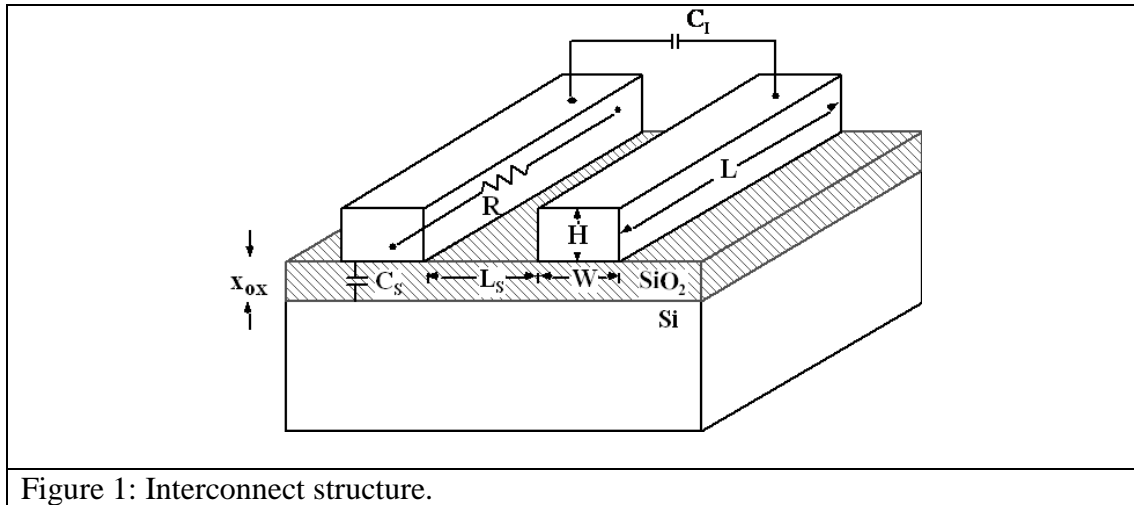

Figure 1: Interconnect structure.
- Refer to Figure 1. Derive expressions for line resistance (R), line-to-substrate capacitance (C_s), and line-to-wire capacitance (C_l). Useful constants include K_{ox} – oxide dielectric constant, and ϵ_o – free space permittivity;